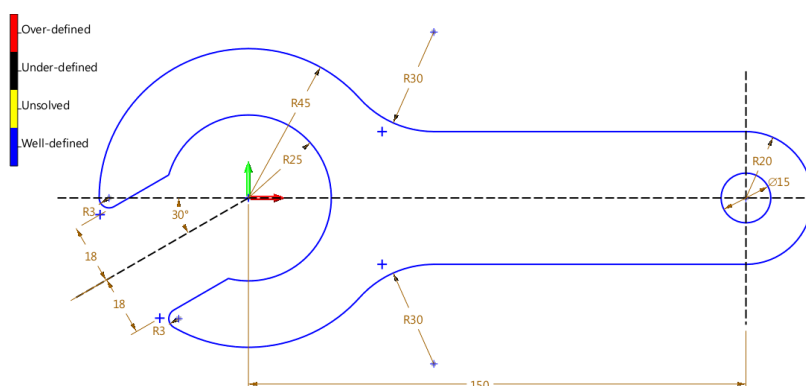

Figure 137 Final Sketch
STEP 11 Fillet the tips of the sketch. The well-defined result is as Figure 137 shows.